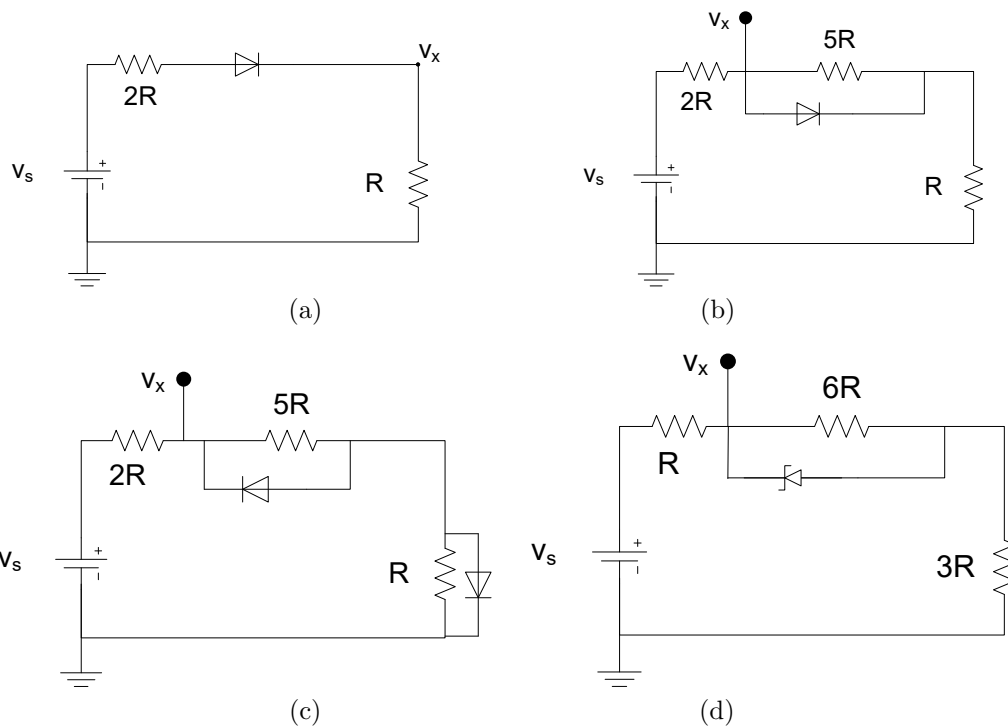

Figure 1.1: Simple diode circuits
Assuming the built-in voltage of diode is V_γ and the breakdown voltage of a Zener diode is V_Z in Fig. 1.1, find the relationship between V_x and V_s for each circuit theoretically.
Construct the circuits in Fig. 1.1 on a breadboard. For Fig. 1.1(a)~(c), $R=1000\Omega$ and the type of diode is 1N4148. For Fig. 1.1(d), $R=50\Omega$ and the type of diode is 1N4728A.
1. For Fig. 1.1(a), measure V_x when V_s varies from -1~2 V in a step of 0.2 V, design your own table and record all measured data
2. For Fig. 1.1(b), measure V_x when V_s varies from -1~2 V in a step of 0.2 V, design your own table and record all measured data
3. For Fig. 1.1(c), measure V_x when V_s varies from -4~7 V in a step of 0.5 V, design your own table and record all measured data
4. For Fig. 1.1(d), measure V_x when V_s varies from -4~7 V in a step of 0.5 V, design your own table and record all measured data